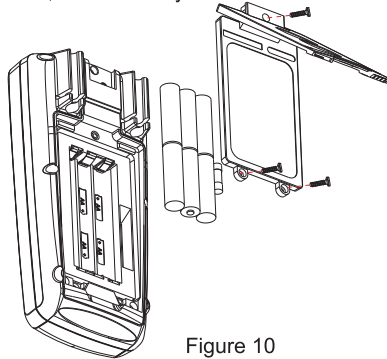

Figure 10
**2. Battery/Fuse Installation or Replacement (See Figure 10)**
The power supply for this product is 6 1.5V (No.5) batteries. Please install or replace batteries according to the sequence listed in Figure 10.
- ① Turn knob switch to the position of OFF (off) and remove private wire.
- ② Use standard cross screwdriver to remove three screws on the battery cover, remove the battery cover, take out batteries and install new batteries according to the polar indication.
- ③ Please use batteries in the same model. Do not install any inappropriate battery.
- ④ Please take out damaged fuse in the way shown in Figure 10 and replace it with fuse in the same specifications. Fuse specifications: 0.5A/1000V.
- ⑤ After installing new batteries, install battery cover and screw three screws.